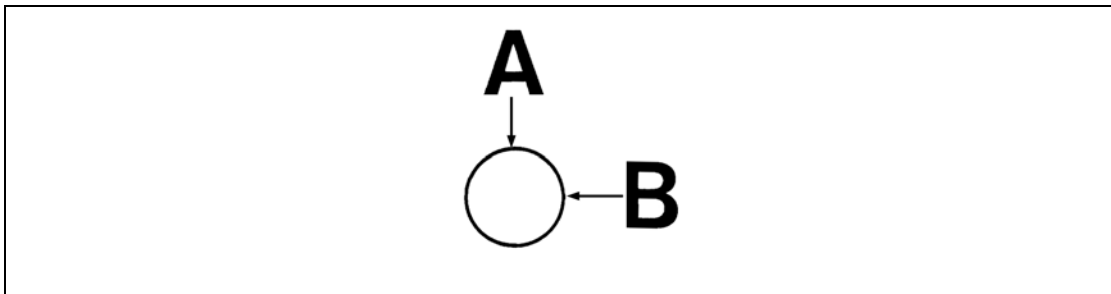
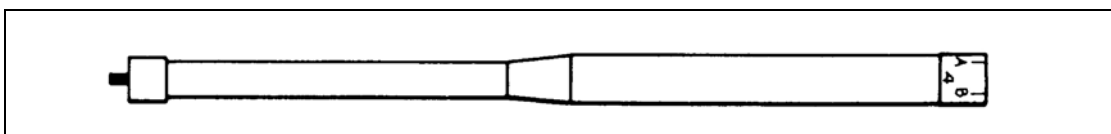

Figure B-25. Adapter-marking template.
Figure B-26. Marked adapter.
a. Mark adapters before screening. Wrap a piece of 1-inch-wide masking tape around the telescope end of the adapter. Make position marks ("A" and "B") on the tape to align the adapter in the barrel and the telescope with the adapter. You can use an adapter-marking template for this (Figure B-25). If you use the template, you can also tape it to your clipboard to hold scoresheets during testing. Place the telescope end of the adapter on the template and on the position marks. Adapters have no permanent identification marks, so you must add them yourself. Then you must mark an identification number for each adapter on the tape. The example adapter shown in Figure B-26 is marked with the number "4."